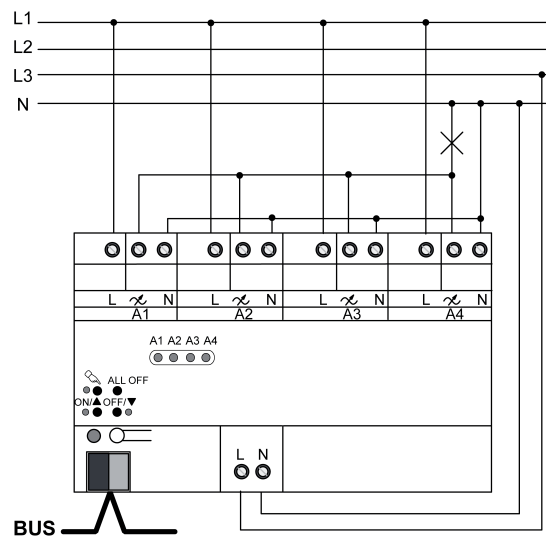

Figure 5: Parallel switching of dimmer outputs – connection example
- Connect device as shown in the connection example (Figure 5).